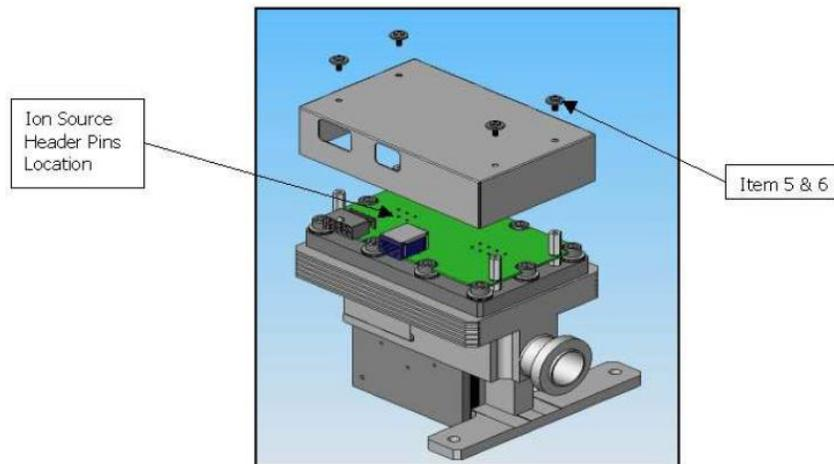

Figure 2-11. Ion source header pin locations
25. Place the spectrometer cover over the header and align the holes (Figure 2-11).
26. Install screws and washers (items 5 & 6), then tighten using a M3 Phillips screw driver (Figure 2-11). Tighten one screw over the ground strap connector.